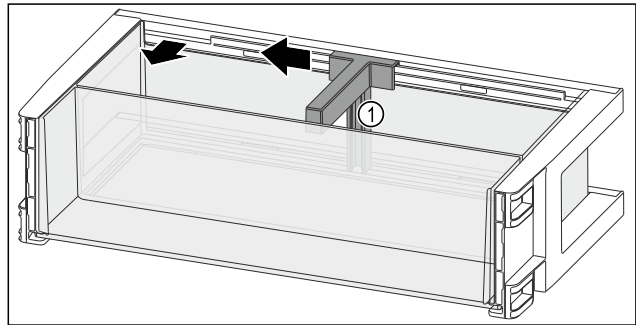

Fig. 110
- ▶ Slide the bottle holder Fig. 110 (1) to the side as far as the recess.
- ▶ Remove the bottle holder Fig. 110 (1).